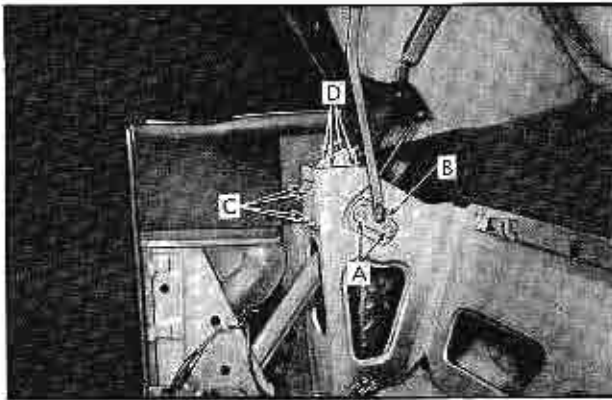

Fig. 3-101 Adjustment of Top or Rear Quarter
1. Loosen four male hinge attaching bolts "D" Fig. 3-101.
Loosen two control link adjusting plate nuts, "A", Fig. 3-101.
1. Loosen male hinge support attaching bolts "C", Fig. 3-101.